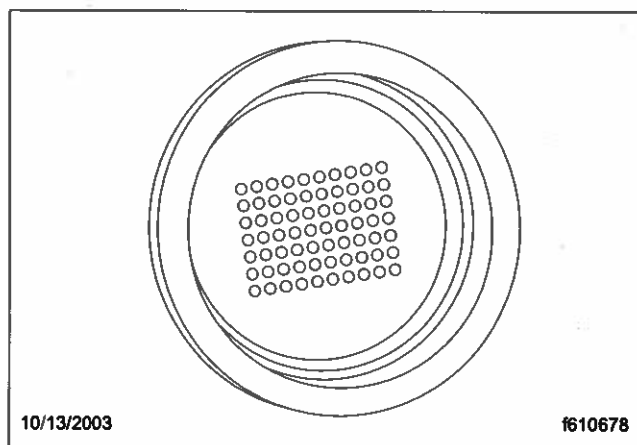

Fig. 8.25, Power-Up Dot Display
3. On power up, the current gear indicator shows the dot display, arranged in a square pattern. All dots in the pattern should light up, without gaps or spaces. See **Fig. 8.25**.